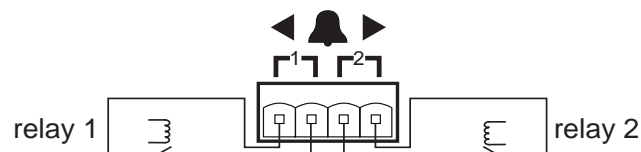

Figure 3. Alarm Output Relay Connections
- Wire your alarm output devices according to Figure 3.